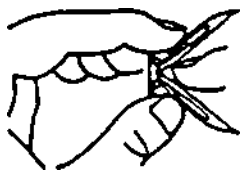

Figure 8 - Folding Anchor
WARNING: Maintain minimum clearances shown in Figure 8. If you can, provide greater clearances from floor and joining wall.
2. Fold wall anchor as shown in Figure 8 below.